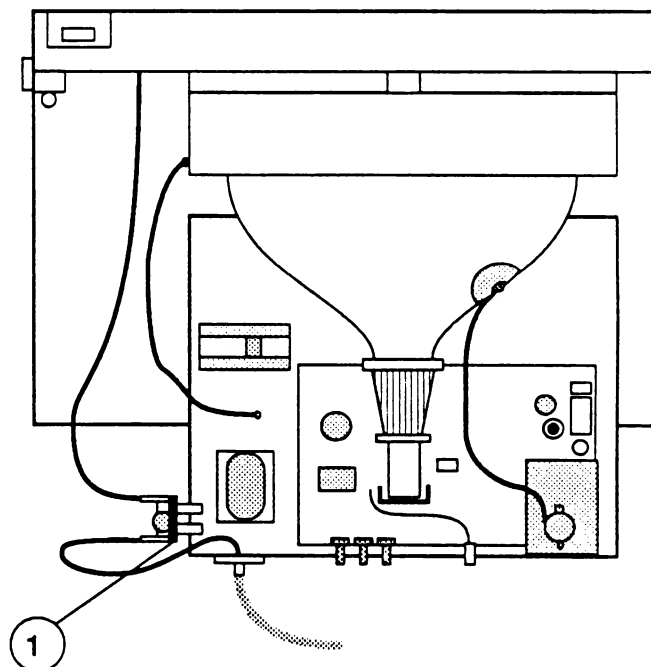

**FIGURE 4**
3. Locate the line filter board (Figure 4, #1).